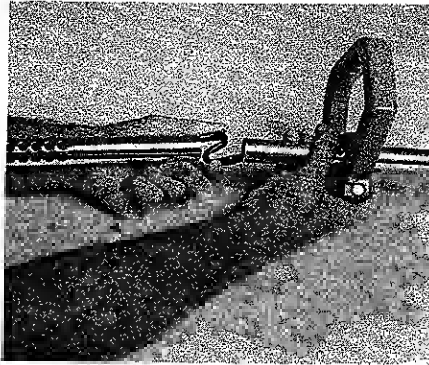

FIGURE 2
2. Form an "S" shape with the excess harness. Figure 2